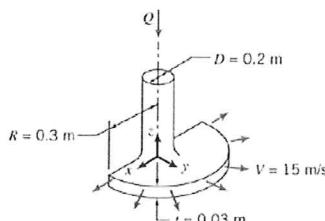

Figure 4
- The nozzle shown in figure 4 discharges a sheet of water through a 180° arc. The water speed is 15 m/s and the jet thickness is 30 mm at a radial distance of 0.3 m from the centerline of the supply pipe. Find (a) the volume flow rate of water in the jet sheet, and, (b) the *y* component of force required to hold the nozzle in place.